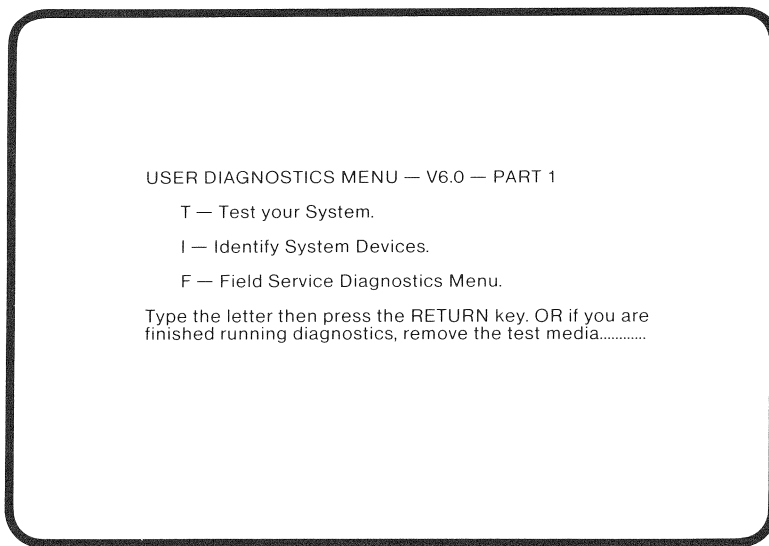

Figure 4-2 User Diagnostics Menu, Part 1
- Select **T** from the User Diagnostics Menu, part 1 (Figure 4-2), and press the **Return** key.